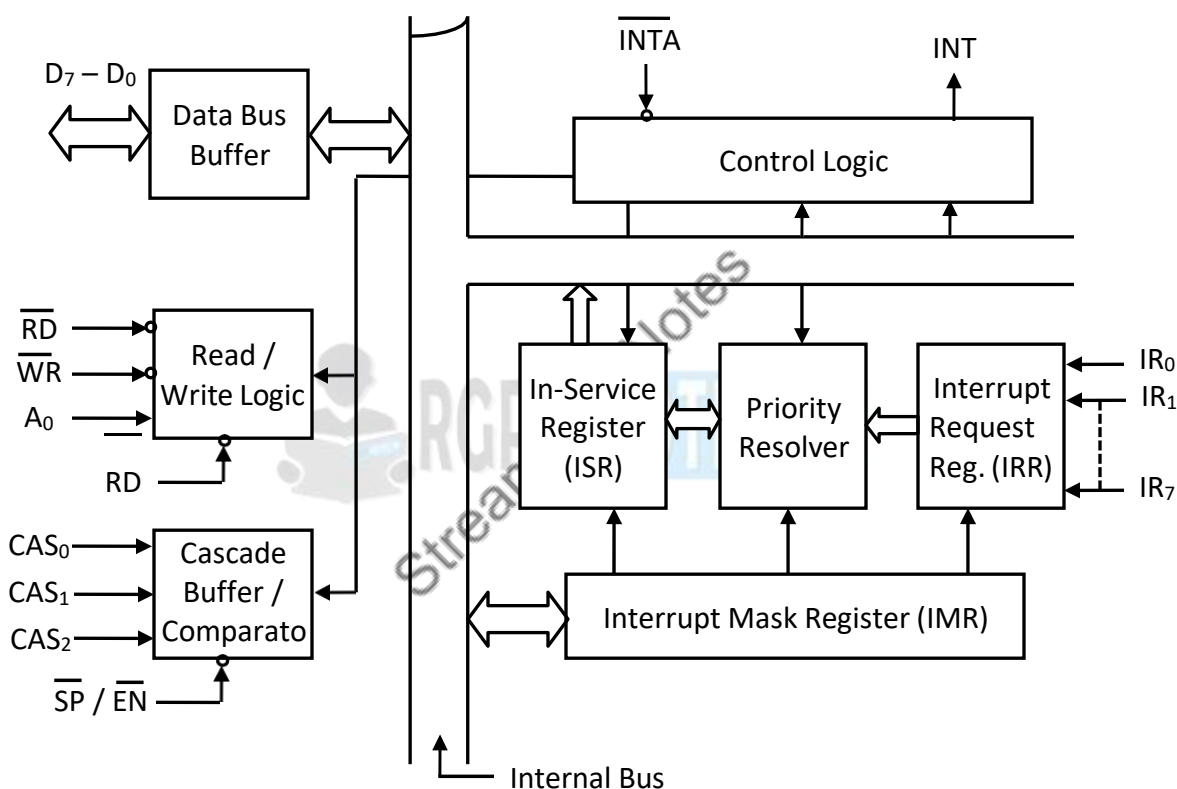

Fig.4.5: 8259 Interrupt Controller Block Diagram
**Programmable Interrupt Controller 8259A:** A programmable interrupt controller is able to handle a number of interrupts simultaneously. It takes care of the type of interrupt and its priorities. The 8259 was designed to operate only with 8-bit processors, 8259A is compatible with both 8-bit and 16-bit processors. The internal block diagram of 8259A is shown in Fig.4.5 below. The function of each of the block is described as follows: